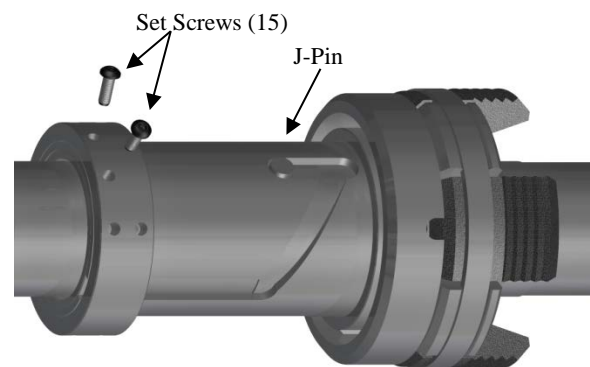

Fig. 3
J-1.3.5) Install J-body assembly onto mandrel (2). Align J-slot in J-body with J-pin on mandrel (2) and move J-pin into running position in J-slot (Fig. 3).
J-1.4) Align holes in spring ring (11) and J-body (5) with threaded holes in cage ring (3). Screw button head cap screws (15) into cage ring (3) (Fig. 3).